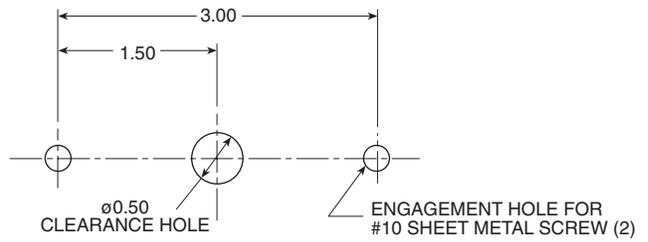

Fig. 22 — Supply Air Temperature Sensor Mounting
2. Drill or punch a 1/2-in. hole in the fan coil unit. See Fig. 22.